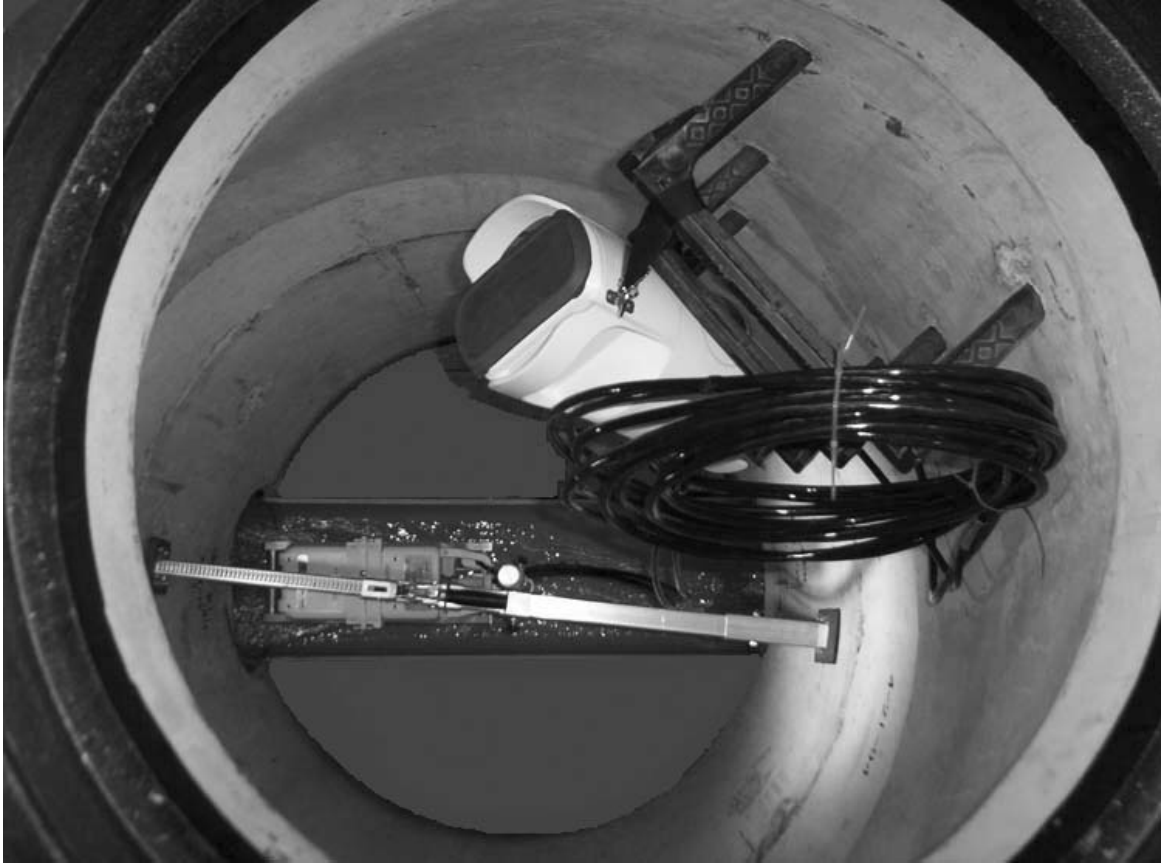

Figure 9
- 17) Coil the sensor cables and secure them to the top ladder rung. Hang the data logger from the top ladder rung. (See Figure 9 next page.)